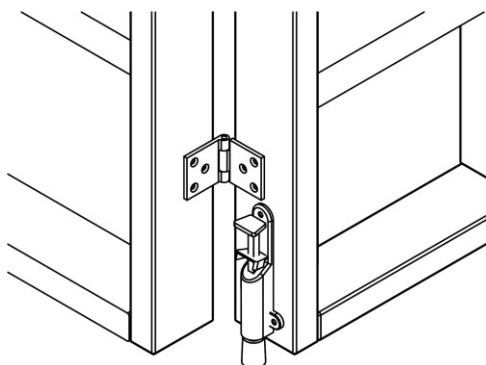

Figure 7: Floor bolt attachment
The climbing frame should be anchored to the ground for optimum stability. Attach the floor bolt (17) to the bottom of the right-hand section using the Spax screws (9) as shown in figure 7.